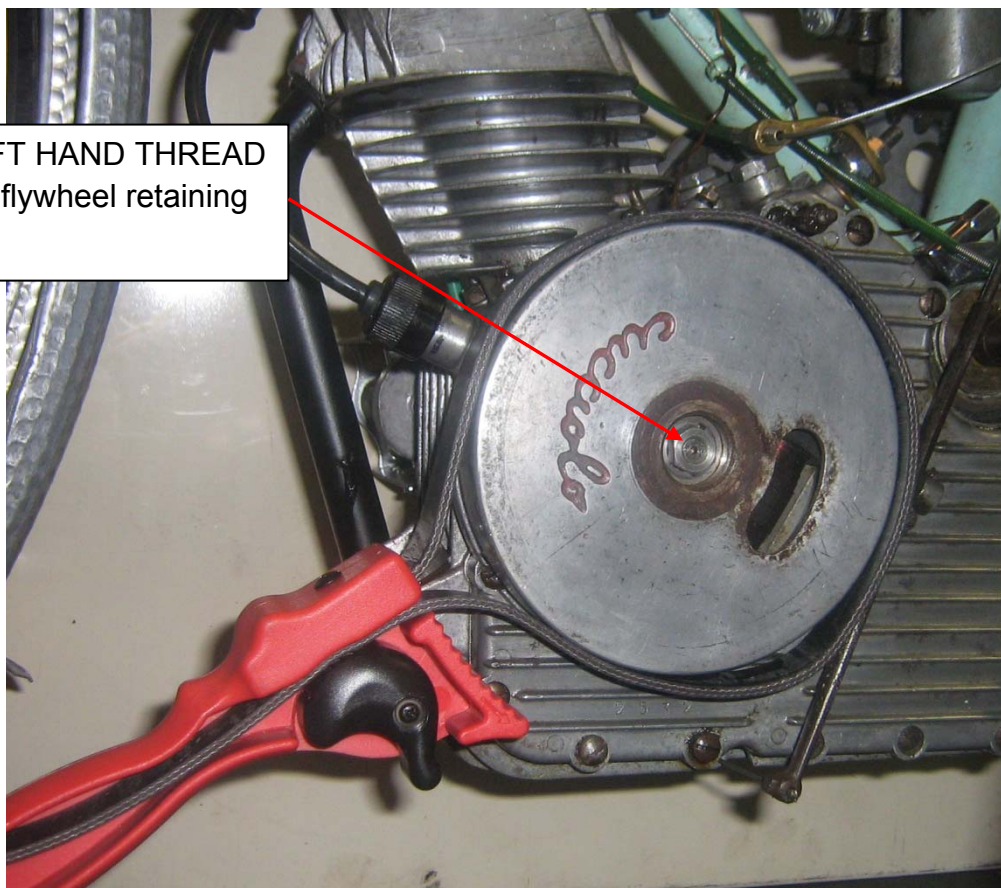

Fig 7.2E.
2. Once the points cover retaining nut **fig 7.2C.** and points cover **fig 7.2D** have been removed a LEFT HAND THREAD flywheel retaining nut is exposed. **Fig 7.2E.**